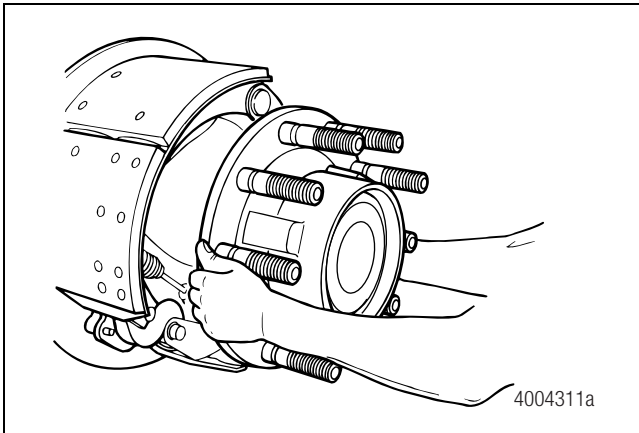
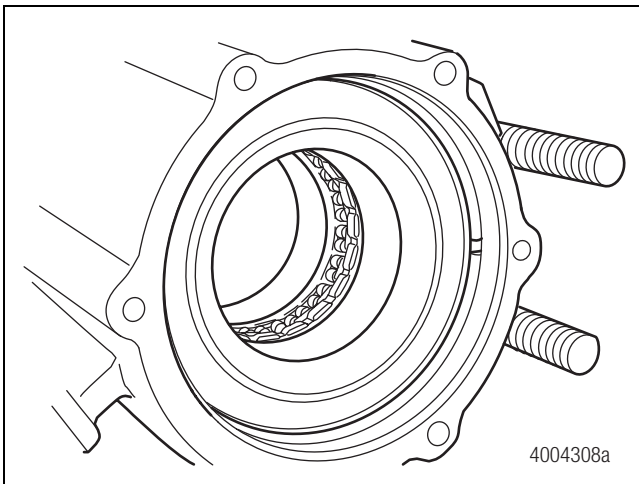

Figure 4.16
Figure 4.17
9. Pull the hub as straight as possible off the spindle to avoid dislodging the clip inside the hub bore. Figure 4.16 and Figure 4.17.